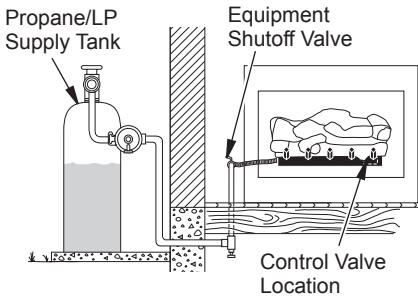

Figure 16 - Checking Gas Joints (Propane/LP Only)
3. Check all joints from gas meter to equipment shutoff valve for natural gas or propane/LP supply to equipment shutoff valve for propane/LP (see Figure 16 or 17, page 16). Apply noncorrosive leak detection fluid to all joints. Bubbles forming show a leak.
4. Check all joints from equipment shutoff valve to gas control (see Figures 16 or 17). Apply noncorrosive leak detection fluid to all joints. Bubbles forming show a leak.